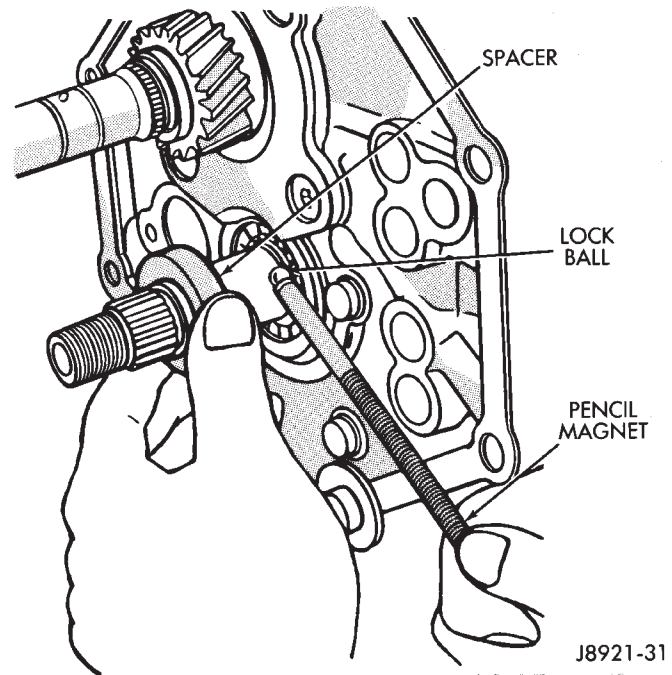

Fig. 31 Spacer And Lock Ball Removal
(5) Remove spacer and remove lock ball with pencil magnet (Fig. 31).